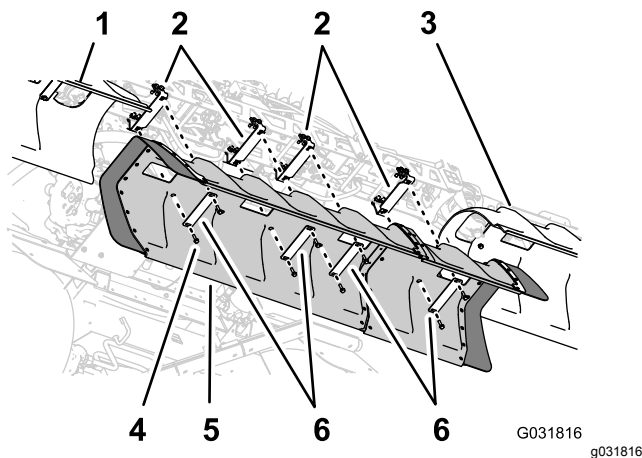

Figure 237
- Align the holes in the center section cover with the holes in the support brackets for the center section cover (Figure 237).
- Align the holes in 2 of the cover straps that you removed in step 1 of 10 Removing the Center Section Cover \(11 Nozzle\) of the Optional Covered Boom Kit \(page 22\) with the hole in the cover and 2 of the support brackets (Figure 237).
- Align the holes in the 2 cover straps (Toro Part No. 120-0629) with the 4 remaining hole in the cover and 4 remaining holes in the support brackets (Figure 237).
- Assemble the cover straps and cover to the support brackets (Figure 237) with the 4 flange-head bolts (5/16 x 1-1/4 inches—Toro Part No. 323-36).